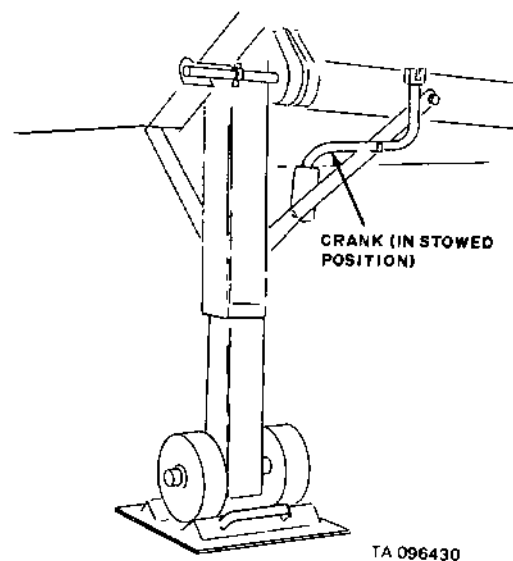

Figure 2-3. Swing-up landing gear, XM847, XM848, XM849, XM850, XM912, XM913
**2-6. Swing-Up Landing Gear, XM847, XM848, XM849, XM850, XM912, XM913 (fig. 2-3).**